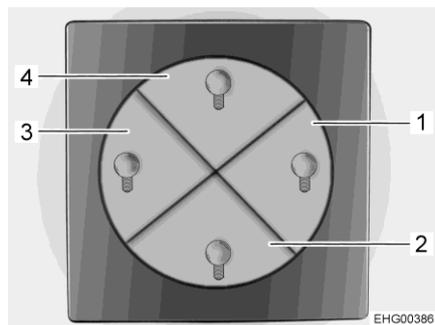

Fig. 74 Switch for light control
- Main light, living area (ceiling lighting) (touchpad 4 in Fig. 74)
- Ambience lighting, living area (indirect lighting by LED strips on the sides) (touchpad 2 in Fig. 74)
- Main light, sleeping area (ceiling lighting) (touchpad 3 in Fig. 74)
- Ambience lighting, sleeping area (indirect lighting by LED strips on the sides) (touchpad 1 in Fig. 74)